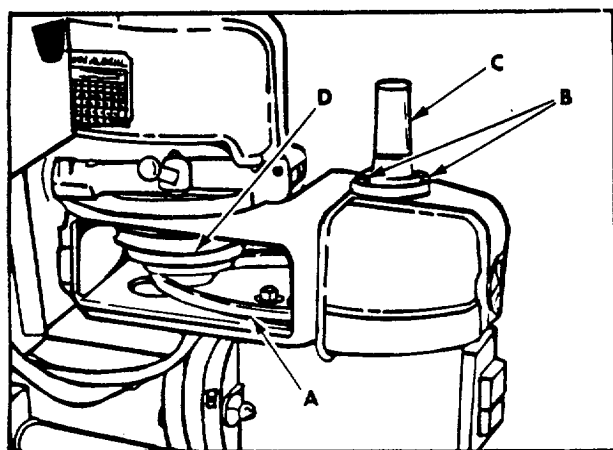

Figure 16
If it ever becomes necessary to replace the lower belt (A) fig. 16, proceed as follows:
2. Remove three screws (B) on cap (C) fig. 16, and remove cap.
4. Release belt tension on the lower belt and remove belt from underneath jackshaft pulley (D) and over the top of the spindle pulley.